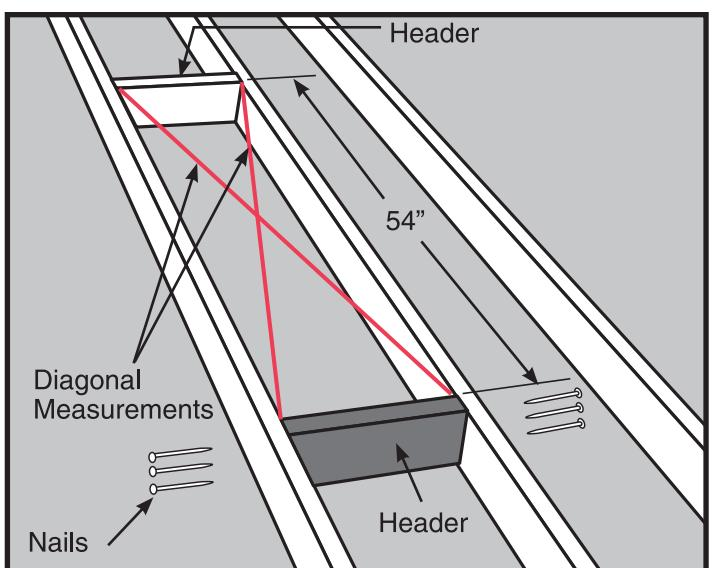

Figure 13 How to check for square
**STEP 5.** Position the second header 54" from the first one and repeat Step 4 (See Figure 13).
**STEP 6.** The frame for the rough opening requires four sides. The headers make up two of those sides. If your ceiling joists are spaced so that they make up the other two sides of the rough opening, check the opening for squareness by measuring across the diagonals. The measurements should be within  $1/8"$  to be considered square (See Figure 13).